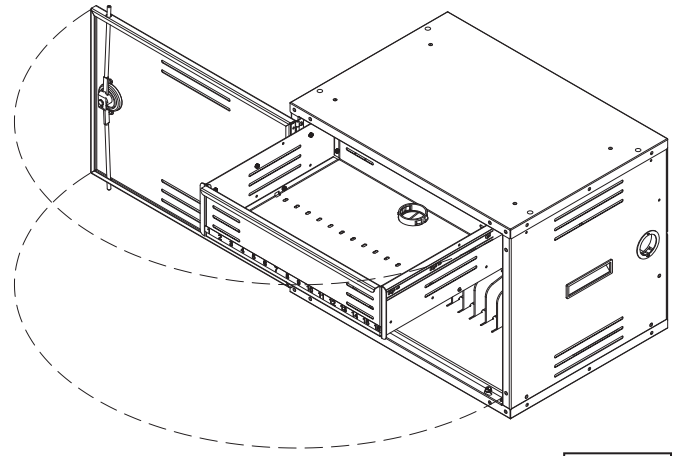

Figure 3A
1. Open the front door and pull out the power drawer. **Figure 3A.**